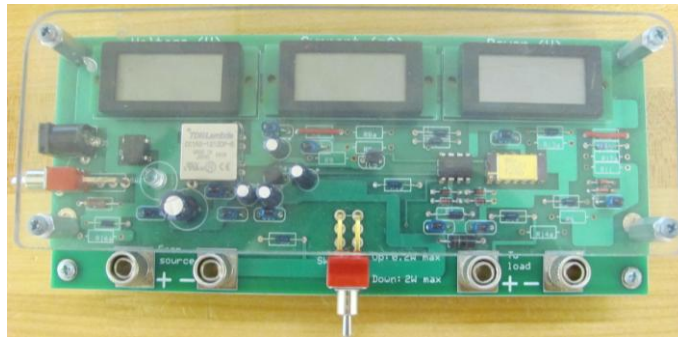

Figure A.2 The power meter measures voltage in volts, current in milliamps, and calculates the power in watts
Figure A.2 shows the top view of the power meter that will be used in this lab. The meter is built on a printed circuit board (PCB). This power meter measures voltage (V) in volts, current (I) in milliamps, and calculates the power (P) in watts.
As shown in Figures A.2 and A.3, the first digital display on the left shows the voltage across the wires (the connections) and the center display shows the current through the wires (from the left connections to the right connections). The one on the far right shows the power in W. The switch (located between the connections) changes the metering range from 0.2 W maximum to 2 W maximum. When you flip the switch up or down you will notice that the decimal points moves on the power display.